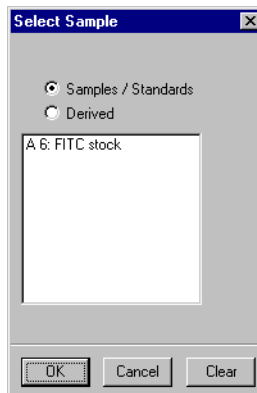

Figure 6-22 Select Sample Dialog Box
2. To select a sample, click the **Add Sample** button to display the Select Sample dialog box (Figure 6-22).